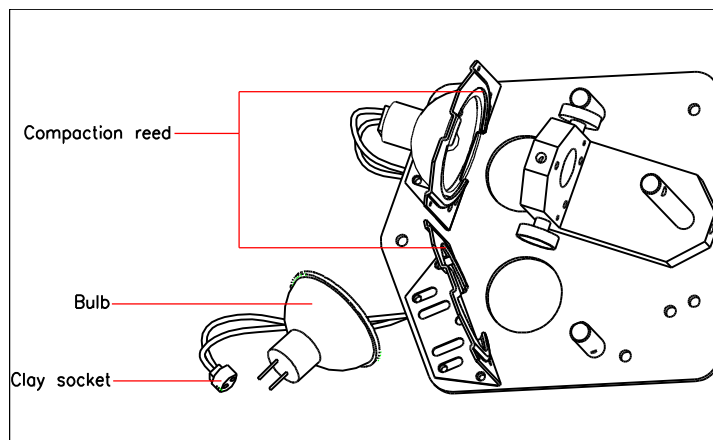

Fig.9- Replacement of the Bulb
- 3.6.1 First check the packing case for the CCD device, and it includes the spare parts and tools(indicated in Fig. 9).